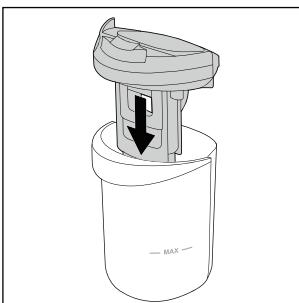

Fig. 29
- ◆ Place the lid of the waste water tank ⑨ back onto the waste water tank ② (see fig. 29).